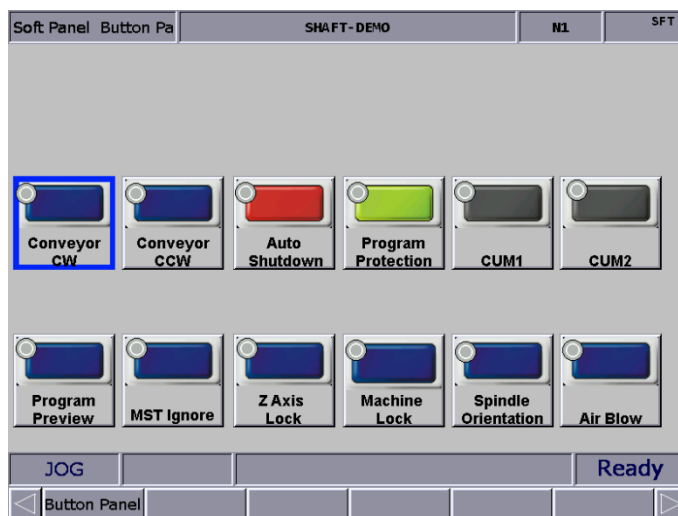

Figure 13.1.3
- After compiling the screens and creating the screen data files, you can import the files to the controller using the USB disk or the Internet, as shown in Figure 13.1.3.